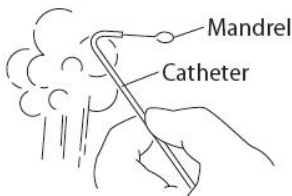

Fig. 1
- 2) Hold Microcatheter tip/shaping mandrel assembly approximately 25.4mm(1 inch) or no closer than 25.4mm(1 inch) from a steam source for approximately 30 seconds to form shape(Fig. 1). Multiple shaping is not recommended.